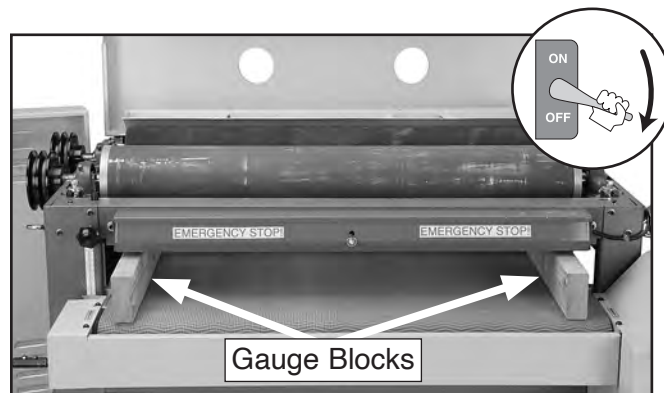

Figure 65. Example of gauge blocks positioned under drums.
3. Place gauge blocks on conveyor table under drums, as shown in **Figure 65**.